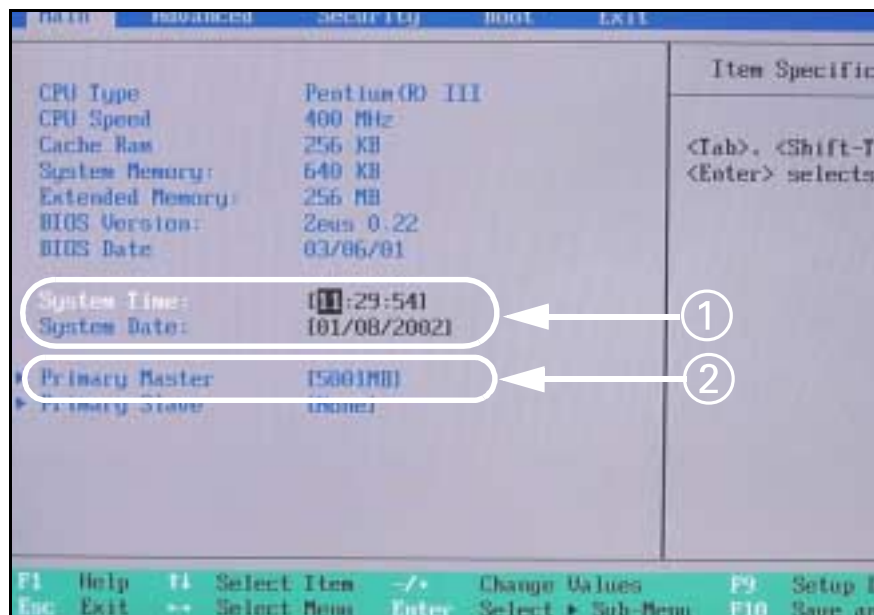

Figure 2-2 Main screen
- 8) Enter correct date/time (① in Figure 2-2) for clinical site, using arrow/number keys.
- 9) Verify correct "Primary Master" settings as shown in (② in Figure 2-2).